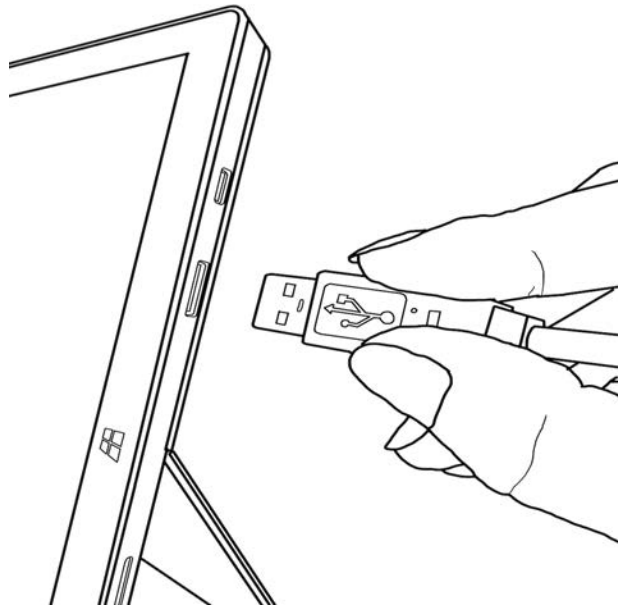

Figure 6.1: Connecting the CST to the CI.
3. Connect the CST to the CI with the USB connection. See Figure 6.1.